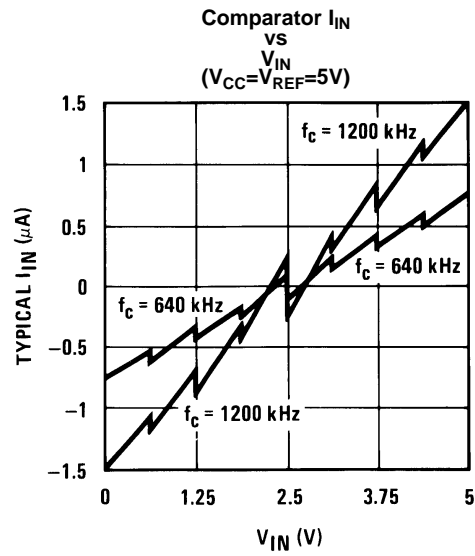

Figure 8.
- (2) Two on-chip diodes are tied to each analog input which will forward conduct for analog input voltages one diode drop below ground or one diode drop greater than the V_{CCn} supply. The spec allows 100 mV forward bias of either diode. This means that as long as the analog V_{IN} does not exceed the supply voltage by more than 100 mV, the output code will be correct. To achieve an absolute $0V_{DC}$ to $5V_{DC}$ input voltage range will therefore require a minimum supply voltage of $4.900 V_{DC}$ over temperature variations, initial tolerance and loading.
- (3) Comparator input current is a bias current into or out of the chopper stabilized comparator. The bias current varies directly with clock frequency and has little temperature dependence (Figure 8). See ANALOG COMPARATOR INPUTS
The average value of the comparator input current varies directly with clock frequency and with V_{IN} as shown in Figure 8.